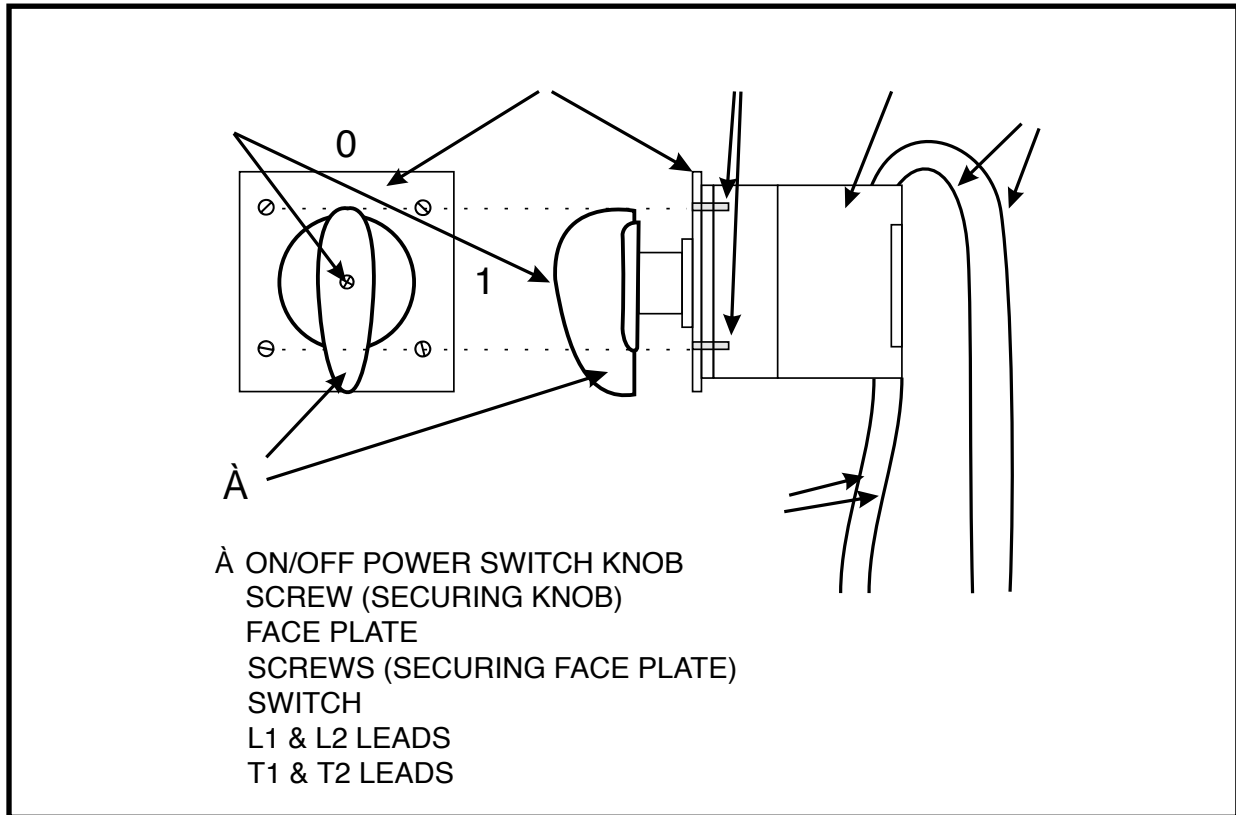

FIGURE F.13-ON/OFF Power Switch Removal/Replacement
4. Remove the black ON/OFF Power Switch knob and plastic insert by unscrewing the small screw in the center of the knob. Remove from the shaft. See Figure F.13.
5. Remove the face plate by squeezing the two tabs together and sliding the plate off. See Figure F.13.